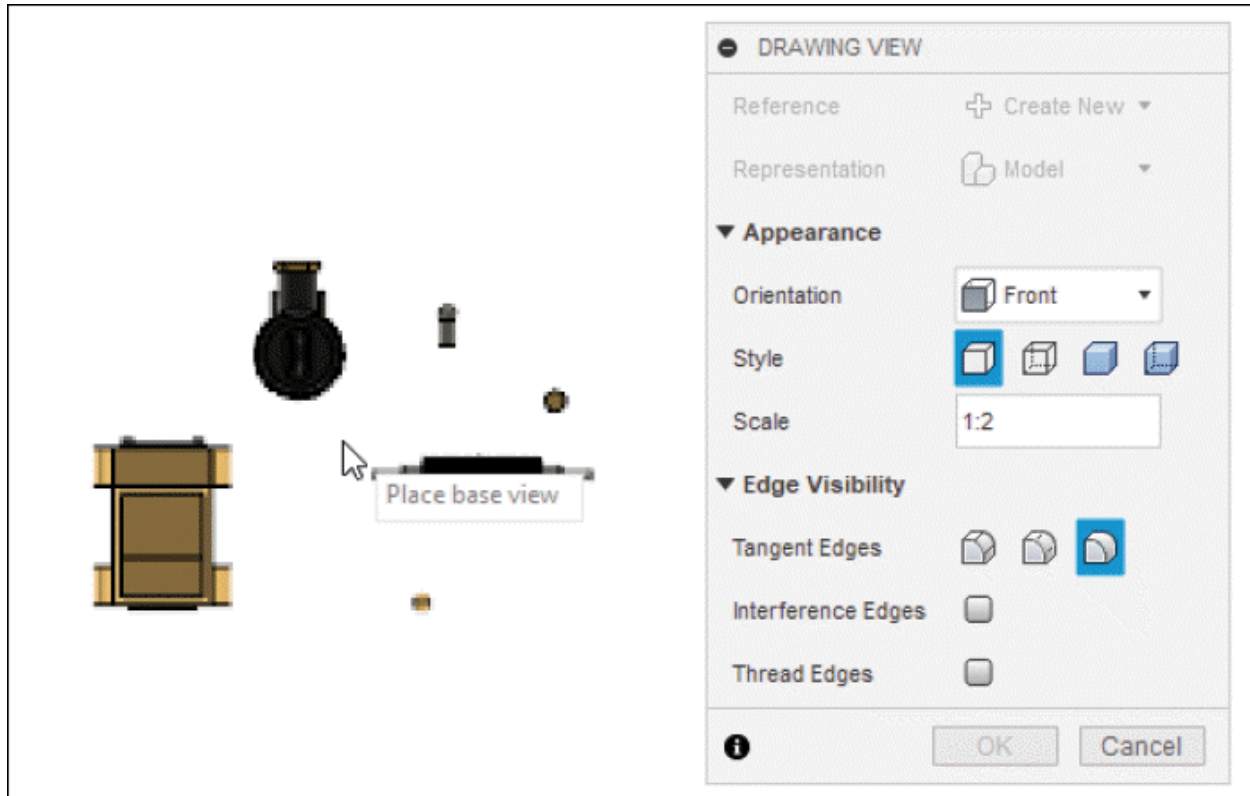

Figure-156. Preview of drawing view
- Make sure **ASME** is selected in the **Standard** drop-down of **CREATE DRAWING** dialog box and click on the **OK** button. The **DRAWING VIEW** dialog box will be displayed with preview of drawing view; refer to Figure-156.